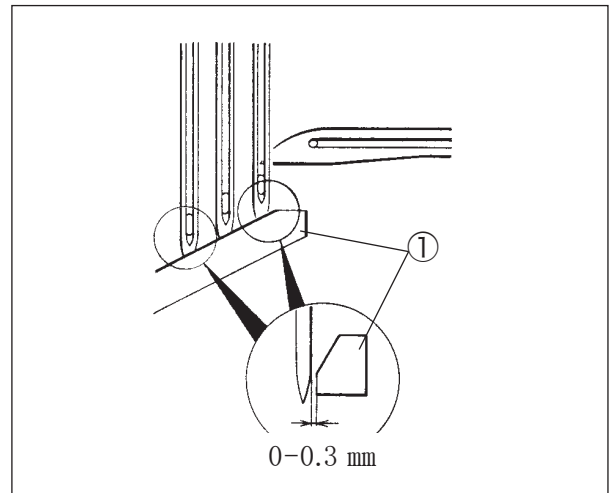

Fig. 6-30
- (3) Adjust the clearance between the needle guard (front) ① and the right needle or the left needle to 0 to 0.3 mm respectively. (Fig. 6-30)
- (4) Tighten the screws ②③ securely.